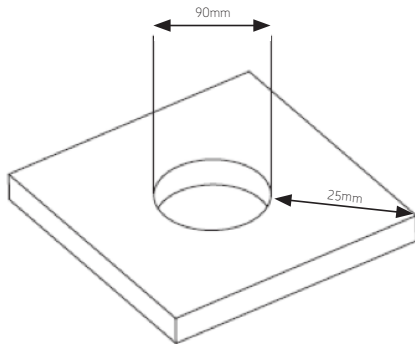

Fig. 1
- Cut a 90mm hole in the surface allowing a 25mm clearance around the hole (see Fig 1)